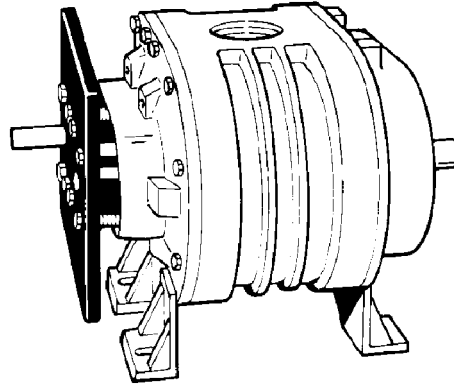

FIGURE 20
7. Apply a light oil to the drive headplate bearing bore, bearing inside diameter, and shaft seat. Install the drive end bearings (14) as far as possible without force.
8. Attach the puller plate shown on page 13 to the drive headplate using the tapped holes used to secure the drive cover (see FIGURE 20, page 19). Tighten the bolts so that the advance of the bearings stay as uniform as possible. Bearings should be pressed until flush with the drive headplate.
9. Lubricate the gear end bearing fits with a light oil as described previously. Install gear end bearings (14) as far as possible without force. Use the plate, used to install the drive end bearings, to press the bearings on the shafts as described in Step 8. Press bearings into the gear headplate until completely seated in the bearing bore.